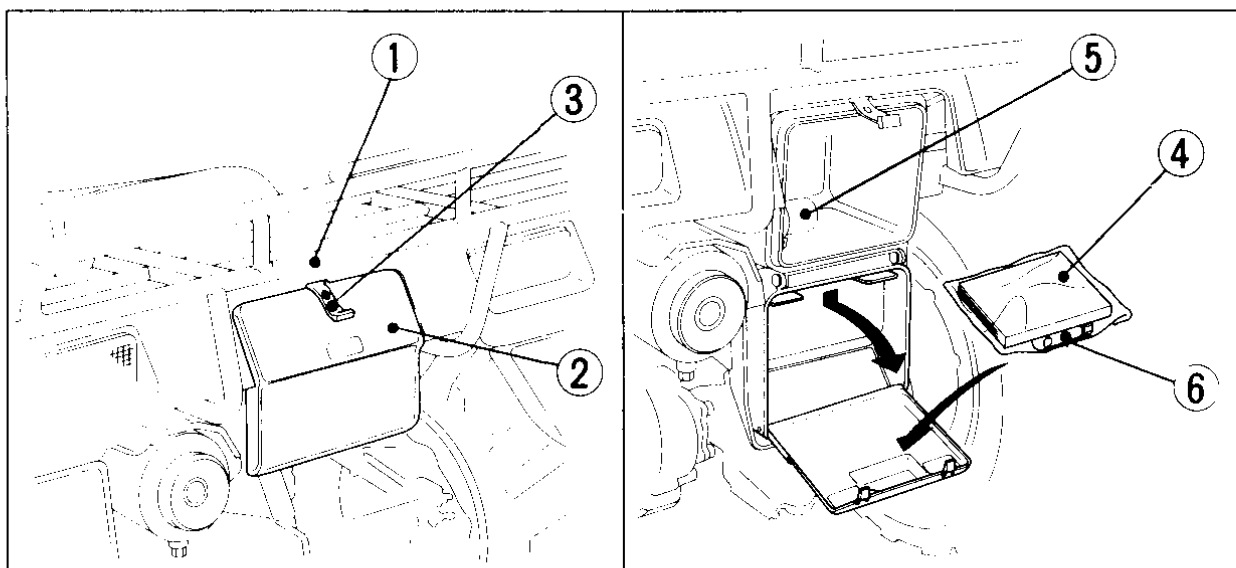

Fig. 2-23
The storage compartment (Fig. 2-23) is below the rear cargo rack. To open the compartment, unhook the rubber strap (3). The owner's manual (4), tool kit (5), and air pressure gauge (6) should be stored in the storage compartment.